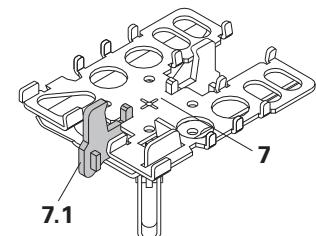

Fig. 38
- Panel SDP (3) (Fig. 38)
- Edge Beam SRT (9) and Filler Timber SPH (11) or timber provided by the contractor with